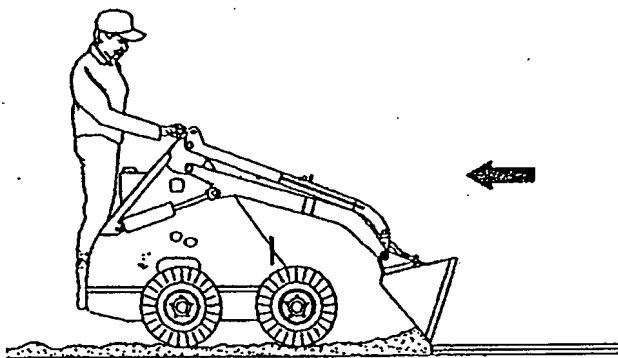

FIGURE 17
2. To level a filled area, tilt bucket forward and drive machine backwards to drag bucket and spread material, as in Figure 17.